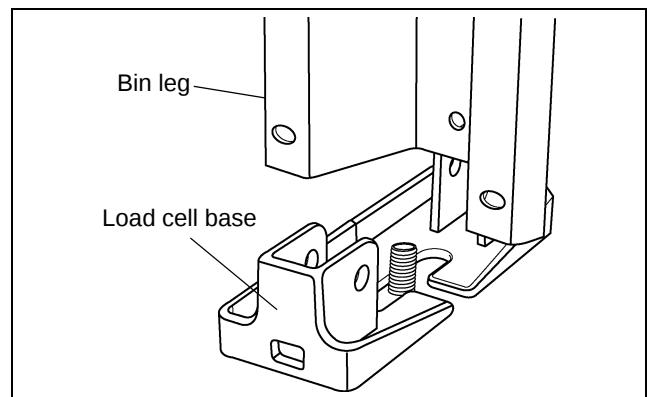

Figure 4G Slide Cell Base Under Leg
2. Position load cell base under bin leg and around anchor bolt as shown. *(See Figure 4G.)*